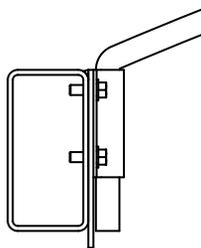

Figure 6-2
- Figure 6-2.** Position bracket as shown to reduce tarp wear.